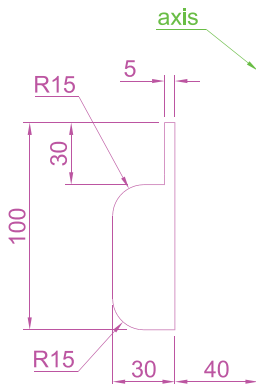

Fig. 14.8 Example of constructing a 3D model – outline for solid of revolution
2. Construct the outline to be formed into a solid of revolution (Fig. 14.8) on a layer colour magenta, and, with the **Revolve** tool, produce the 3D model of the outline.